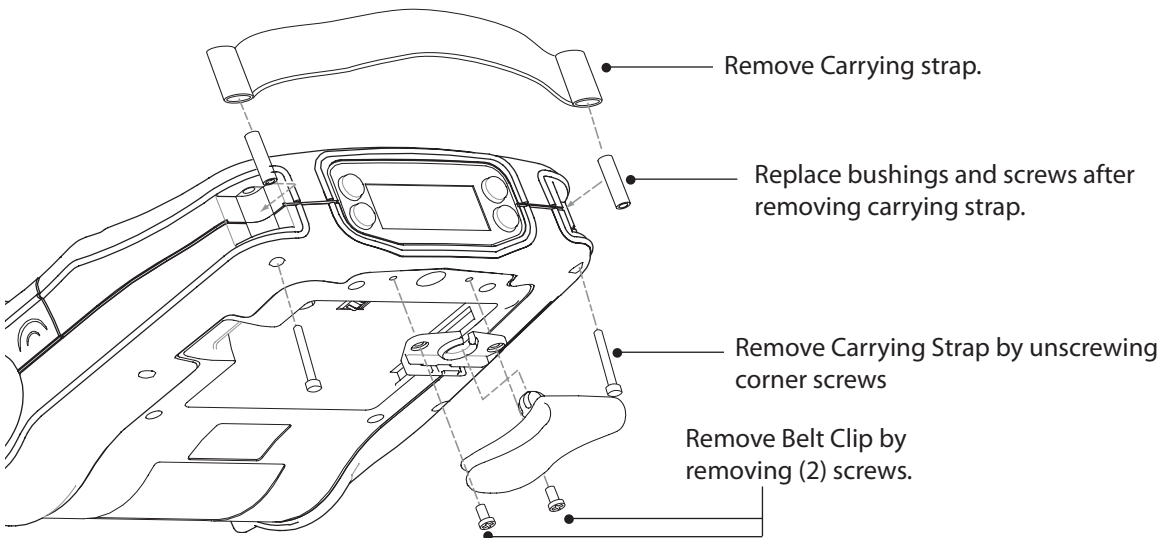

Figure 5:
- If your printer has a carrying strap, you must remove it by the following procedure (Refer to Figure 5).
1. Unscrew the (2) #4-40 x 1" screws holding the top corners of the printer together.
2. Remove the Carrying Strap and the (2) Bushings.
- Remove the Belt Clip from the back of the Printer (Refer to Figure 5).